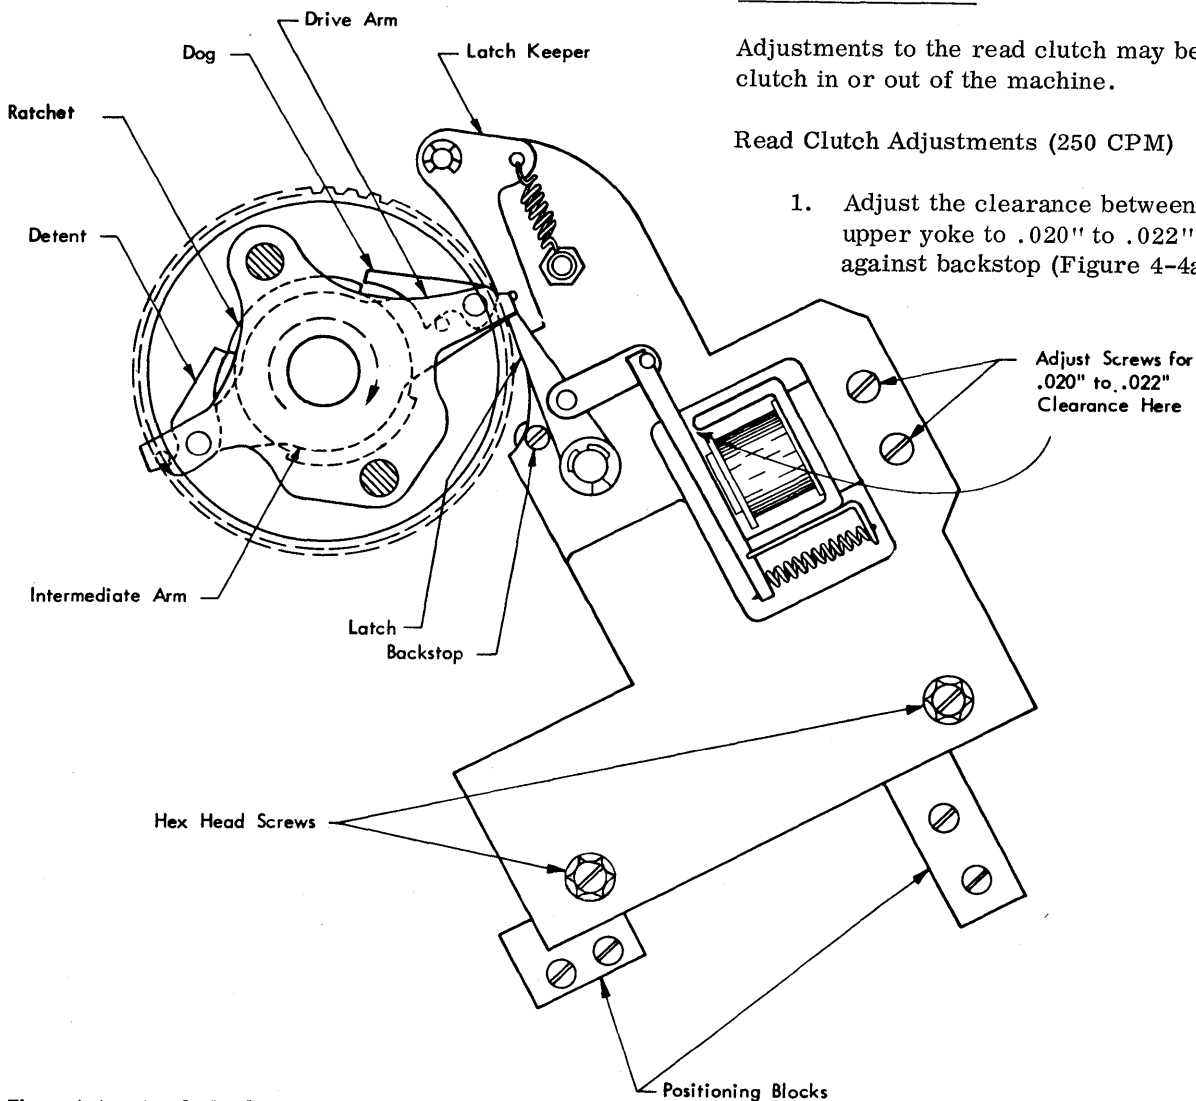

Figure 4-4a. Read Clutch Magnet Assembly Adjustment (250 CPM)
1. Adjust the clearance between armature and upper yoke to .020" to .022" with latch against backstop (Figure 4-4a).
2. Position the complete clutch assembly (Figure 4-4a) so the following two conditions will be met.
1. With clutch armature blocked in the attracted position and with dog and detent engaged on ratchet, the time at which the keeper falls behind the drive arm should be $315^{\circ} \pm 1^{\circ}$ (Figures 4-4a, 4-5a and 4-6).